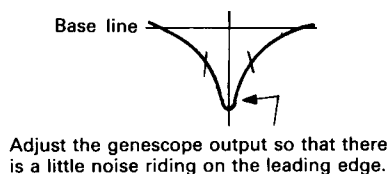

Fig. 12
1. Feed in a weak signal from the genescope. Adjust T201, T203 for maximum gain and the waveform of Fig. 12.